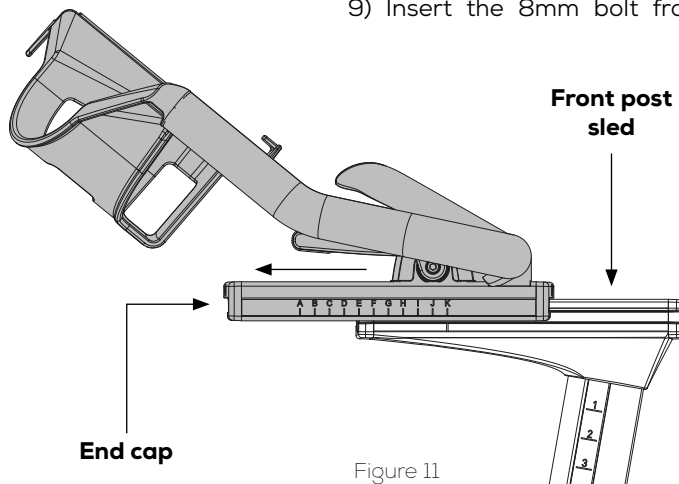

Figure 11
1) Remove the front end-cap by releasing the two 4mm bolts. See figure 11
2) Release resistance and push the sled forward. The letter **K** Should be above the line as shown in figure 11.
3) Unscrew the 8mm bolt from below. This enables you to slide off the handlebar from the sled. See figure 11.